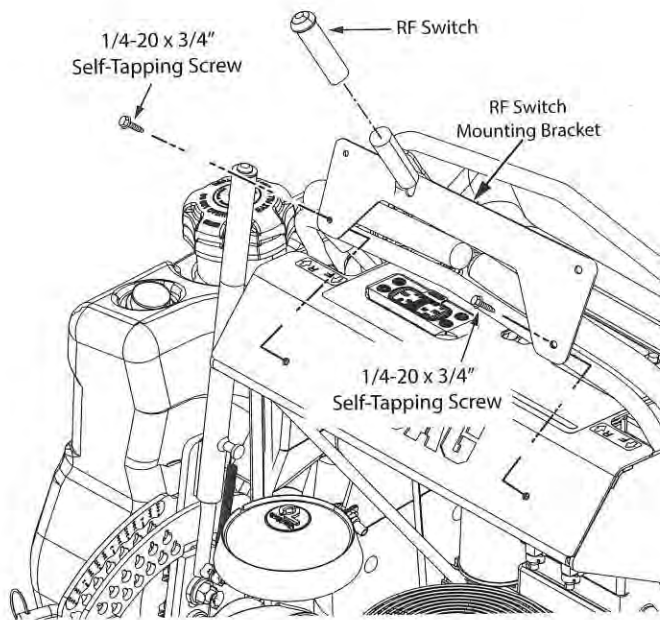

Figure 3-33. SVR II RF Switch Mounting Bracket Installation
11. Install the RF switch mounting bracket to the control panel using the two (2) 1/4" - 20 x .75" tap tite screws included in the kit. See Figure 3-33.
13. Install the RF switch into the mounting bracket as shown in Figure 3-33. It may be necessary to add a light application of silicone to the outside of the switch to retain the switch in the bracket.